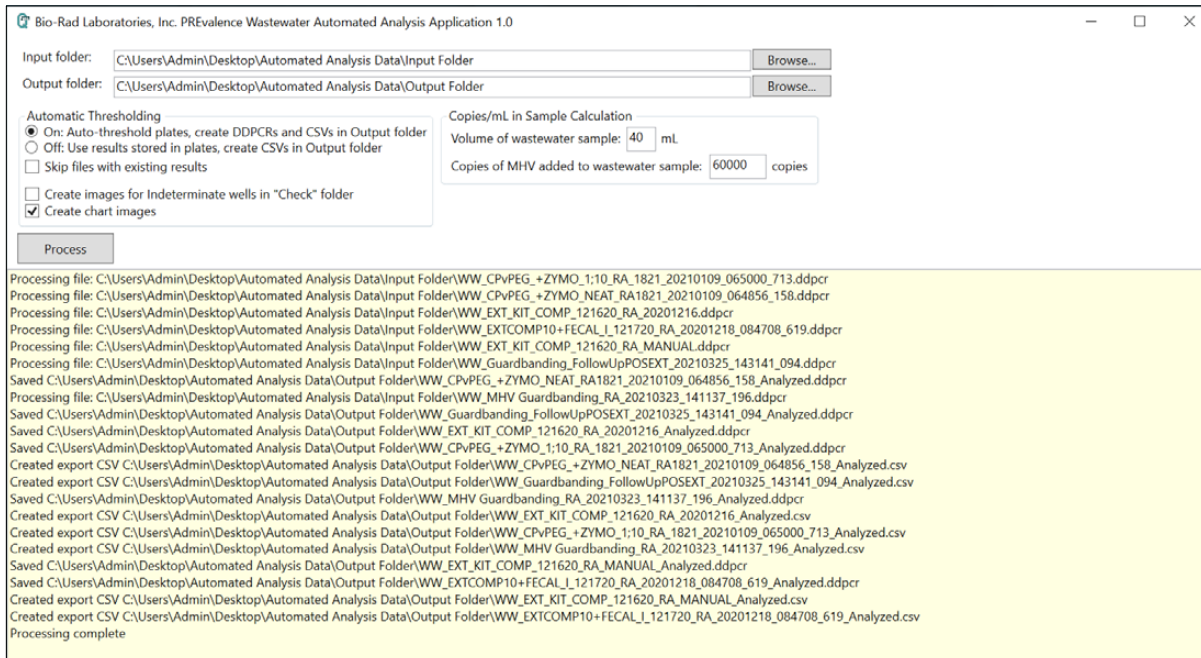

Fig. 9. Processing log.
- As the application proceeds to analyze the data files found in the Input folder, the user is able to track the progress in the Processing log section of the user interface (Figure 9).